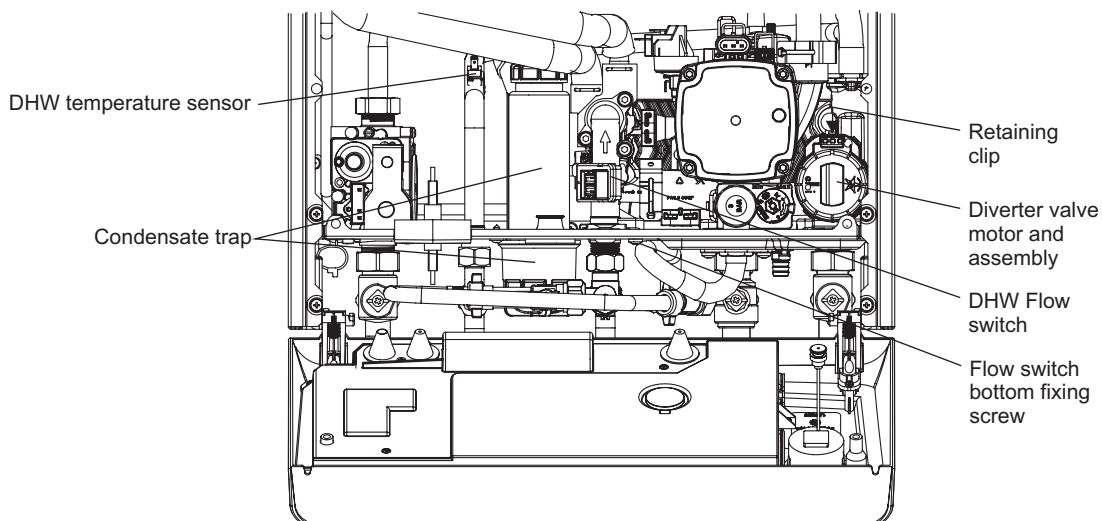

Fig. 7.3
### 7.12 DIVERTER VALVE MOTOR - Fig. 7.3
### 7.14 DHW TEMPERATURE SENSOR - Fig. 7.3
1. The DHW sensor is positioned in the hot water outlet pipe to the left of the flow switch, see Fig. 7.3. Unplug the two connections and unclip the sensor from the pipe.
**Note:** The DHW sensor should be on the sloped part of the DHW pipe. See Fig. 7.3.
### 7.18 DHW FLOW SWITCH - Fig. 7.3